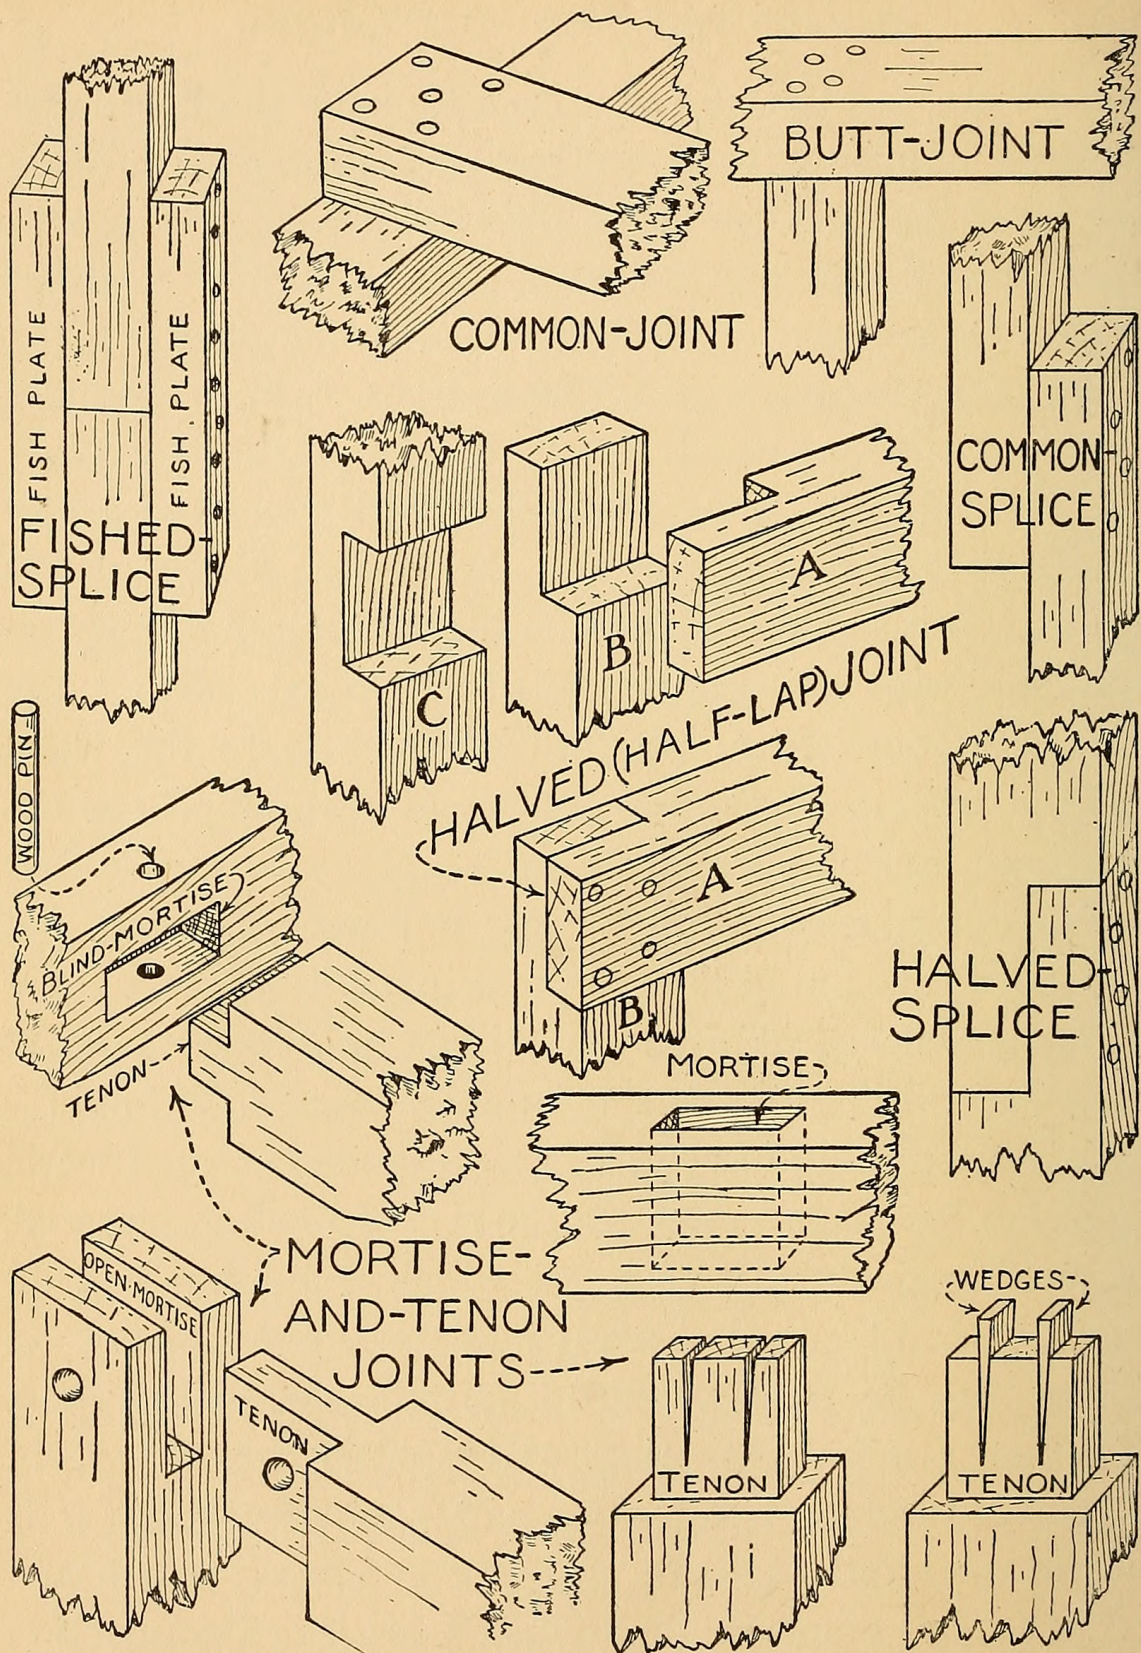

FIG. 74. — Common Forms of Joints and Splices.
**Joints and Splices** used for joining together pieces of wood, and it is important to practice upon such joinings before attempting to use them upon a nice piece of work, in order that you may not run the risk of spoiling material. Any odd-sized pieces of wood which you have on hand may be used for these exercises as the proportions of the joints may be worked out to suit the size of the piece. The most important joints and splices are shown in Figs. 74 and 75 (pages 58 and 59). By a *joint* is meant any kind of a connection between two pieces placed at an angle to one another, while a *splice* is a connection between two pieces placed in a straight line.
**A Halved-splice** is obtained (Fig. 74).
**The Mortise-and-Tenon Joint** is one of the most important of cabinet-makers' joints, and you will have occasion to employ it in joining together work when it is necessary to make strong connections. Several forms of this joint are shown in Fig. 74, and the method of laying out the *mortise* and the *tenon*
**Pins** which you will use most are those described for the construction of the furniture in Chapter VI. In Fig. 74 you will see another common way of pinning together the members of a mortise-and-tenon joint. First of all, a small hole is bored through the sides of the mortise, then the tenon is slipped into place and the position of the hole marked upon it, and then the hole is bored through the tenon about  $\frac{1}{16}$  inch nearer to the shoulder than where located. By changing the position of the hole you will see that the pin will draw the shoulder on the tenon piece tight against the mortise piece, when driven into place. For
**Wedging** the tenon (Fig. 74), one or more *kerfs* are sawed in the end of the tenon, and after the tenon has been slipped through the mortise, wood wedges are coated with glue and driven into the kerfs, thus spreading the end of the tenon in the same way in which the handle of a hammer is fastened in the head.